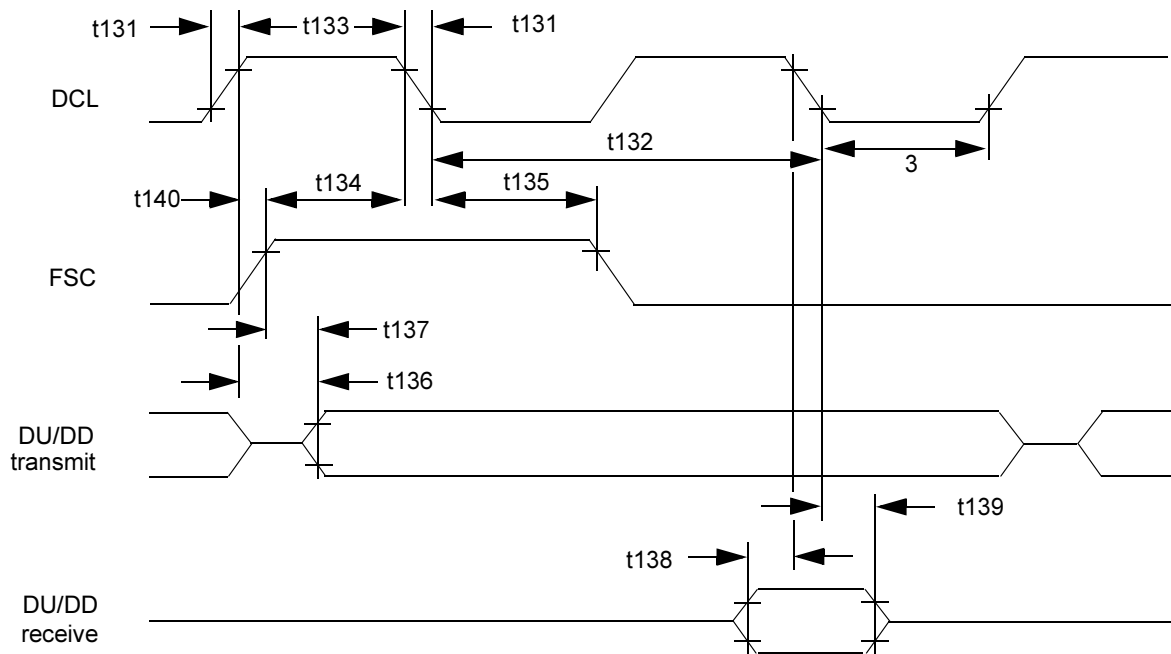

Figure 21. GCI/SCIT Slave and Master Timing Diagram
**GCI/SCIT Timing-Slave Characteristics (See Figure 21)**
**GCI/SCIT Timing - Master Characteristics (See Figure 21)**